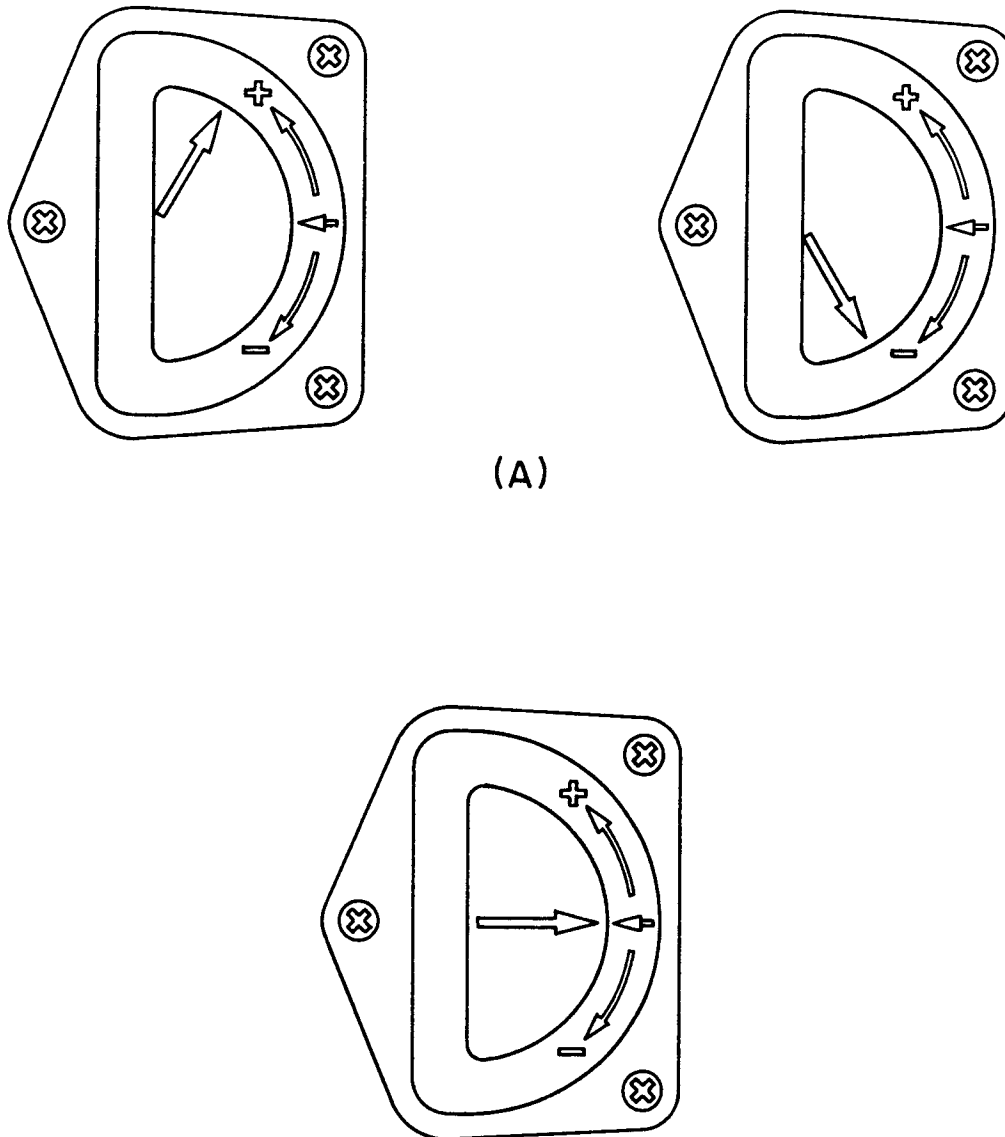

Figure 4-3. Tuning Oscillator Motor Dial, Correct and Incorrect Settings
Whenever tuning from one frequency to another Steps 3 to 7 should be followed. Also, if the operator should notice that the arrow on the tuning dial is not near the index mark (see Figure 4-3), he should retune the equipment by following Steps 3 to 7.
-If the arrow on the tuning dial is at a considerable distance from the index mark, the AFC circuit is operating close to the limit of its range. See Figure 4-3. If allowed to remain in this condition, there is danger of the motor losing control of the tuning oscillator. The tuning oscillator motor should be reset at the earliest possible opportunity when the equipment is not in use.